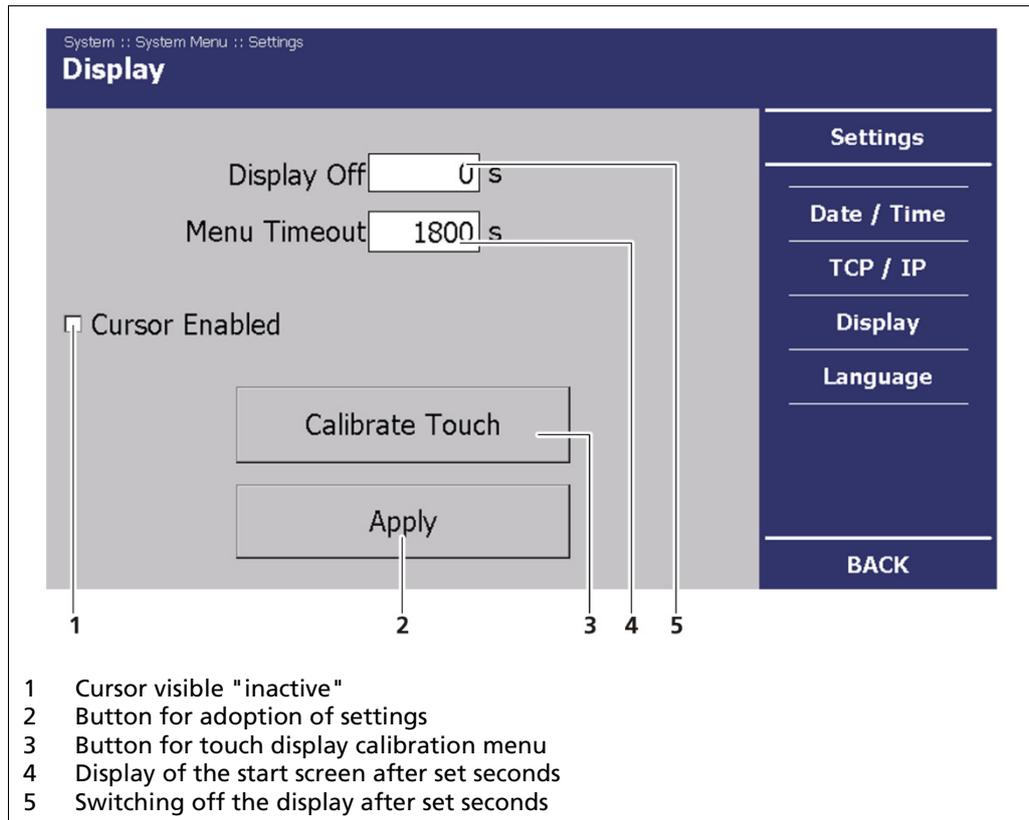

Fig. 29 System Menu. Settings - Display
Cursor Enabled	If the EVU is to be operated with a mouse, a tick must be put in the "Cursor visible" check box (Fig. 29, Item 1). The cursor is visible even if there is no mouse connected and the EVU is operated via the touch display.
1. Click on <Calibrate touch pad> (Fig. 29, Item 3).